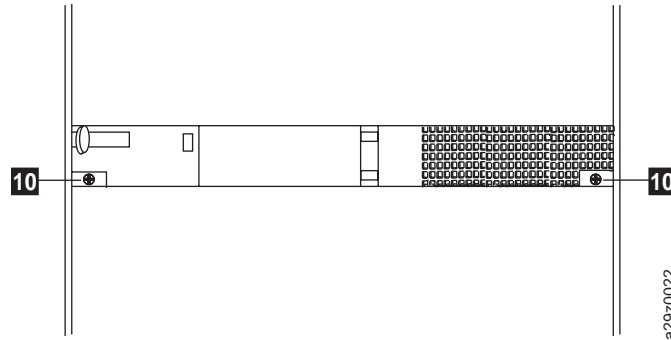

Figure 150. Securing the rear of the library in the rack
- Secure the rear of the library to the rack with 2 round-head screws **10** on each rear bracket (Figure 150). Tighten the other rear bracket screws to secure the library to the rack.